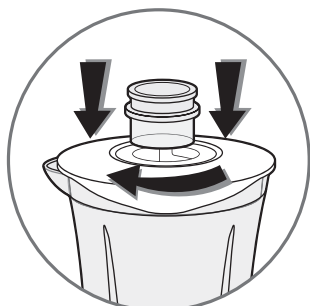

fig.2
3. Fit the measuring cap (A) into the opening in the lid and turn it to lock it into place. (Fig. 2).